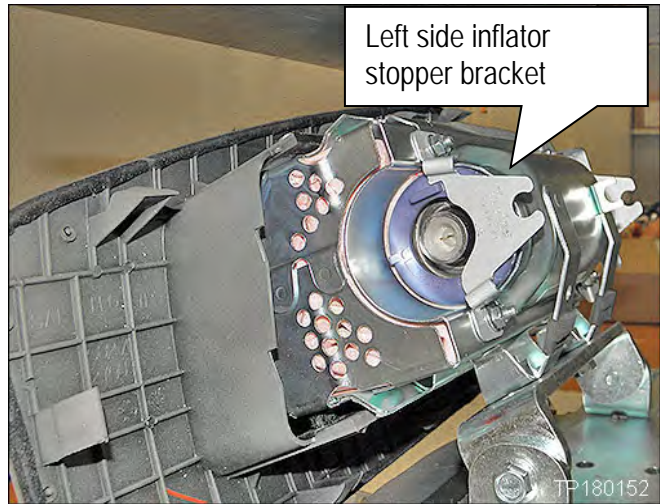

Figure 38
46. Install the left side inflator stopper bracket and 2 inflator securing nuts finger tight (see Figure 38).